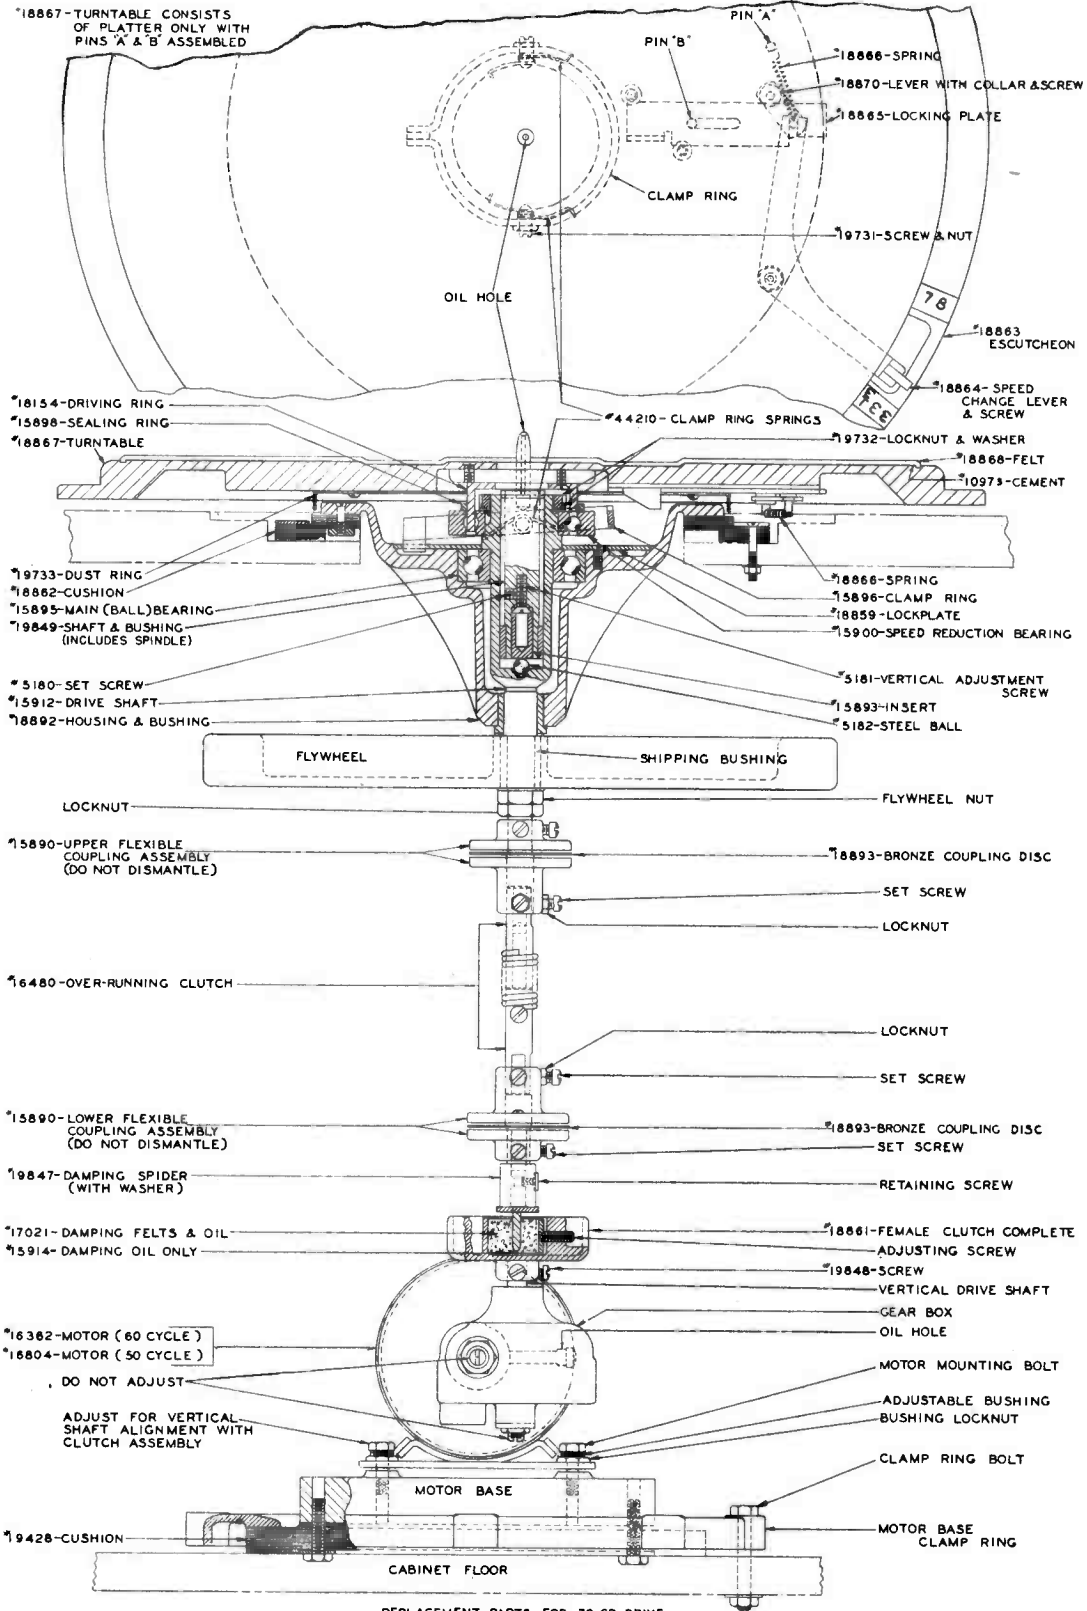

Figure 3—Turntable-drive assembly.
14. Refer to figure 3. Remove the door of the cabinet by pulling outward on the horizontal pull
17. Refer to figure 3. With the set screws and locknuts loosened, place the coupling shaft and flexible coupling assemblies in position at the drive assembly, slide the upper flexible coupling up on the flywheel shaft, and the lower flexible coupling down on the drive shaft. Space the couplings equally on the shafts and then tighten the set screws and locknuts. Note that the flywheel shaft and the short shaft projecting upward from the mechanical filter are "spotted" for the cone point set screws and that both ends of the coupling shaft are provided with "flats" for the accommodation of their respective set screws in the collars of the flexible couplings. Observe also that the coupling shaft consists of two members (male and female), the joint of which is concealed by the spring of the over-running clutch. The shaft should be replaced in such a manner that the retaining screw of this spring is toward the bottom of the shaft. Be sure that the two members
19. The mechanical filter (cup-like receptacle above the motor) includes an adjusting screw which, when tightened, causes movable plates to compress the felt cushions which form a part of this filter. As shipped from the factory, this adjusting screw is loosened an amount such that proper pressure is obtained when the screw (see figure 3) is tightened six turns. At this point the felt cushions should be firm but not hard.